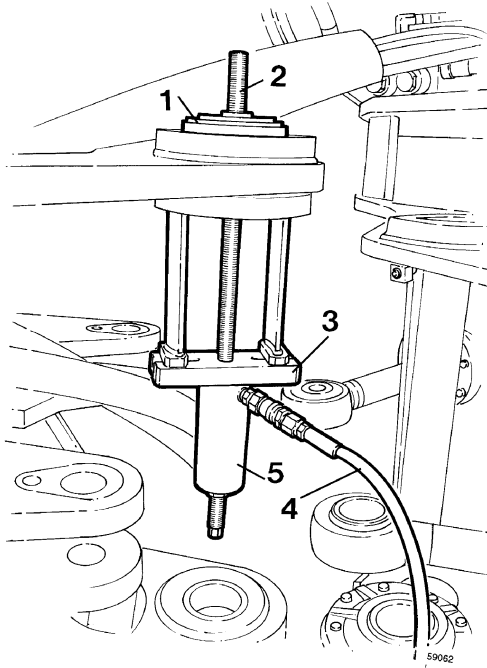

Figure 11
18. Prize away the oil seals, remove the lock rings and press out the link bearing according to Figure 11.